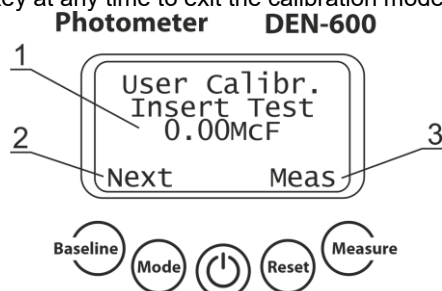

Figure 3. Creating user calibration.
5.7. Creating McF user calibration (figure 3).
5.7.5. Press **Baseline** key 5 times in McF mode to enter user calibration regime (figure 3).
5.7.6. Display shows the value of necessary standard (fig. 3/1).
- Insert the standard tube into the socket and press Meas (fig. 3/3, **Measure** key). Unit measures turbidity, display sequentially shows indications “Wait...” and the McF value in the lower line. After the measurement, next calibration point appears on display. Remove the standard tube and repeat.
- If the displayed standard is not available, press Next (fig. 3/2, **Baseline** key) to skip to the next standard.
- If the calibration was not successful, display shows “Data Error” before restarting the calibration procedure (figure 3).